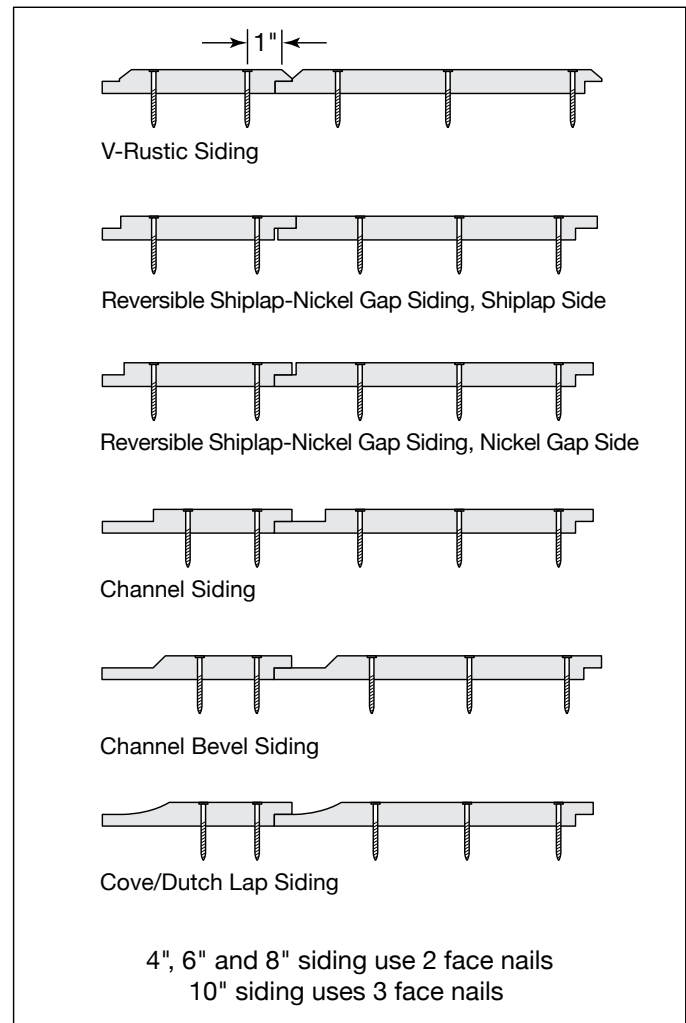

Fig. 4b
- For 10" profiles use 3 fasteners per every framing member. All fasteners should be through the face of the profile. Product should not be fastened through the tongue (Fig. 4b).
- See Nailing TruExterior Siding and **Fig. 4b** on page 4 for fastening instructions.